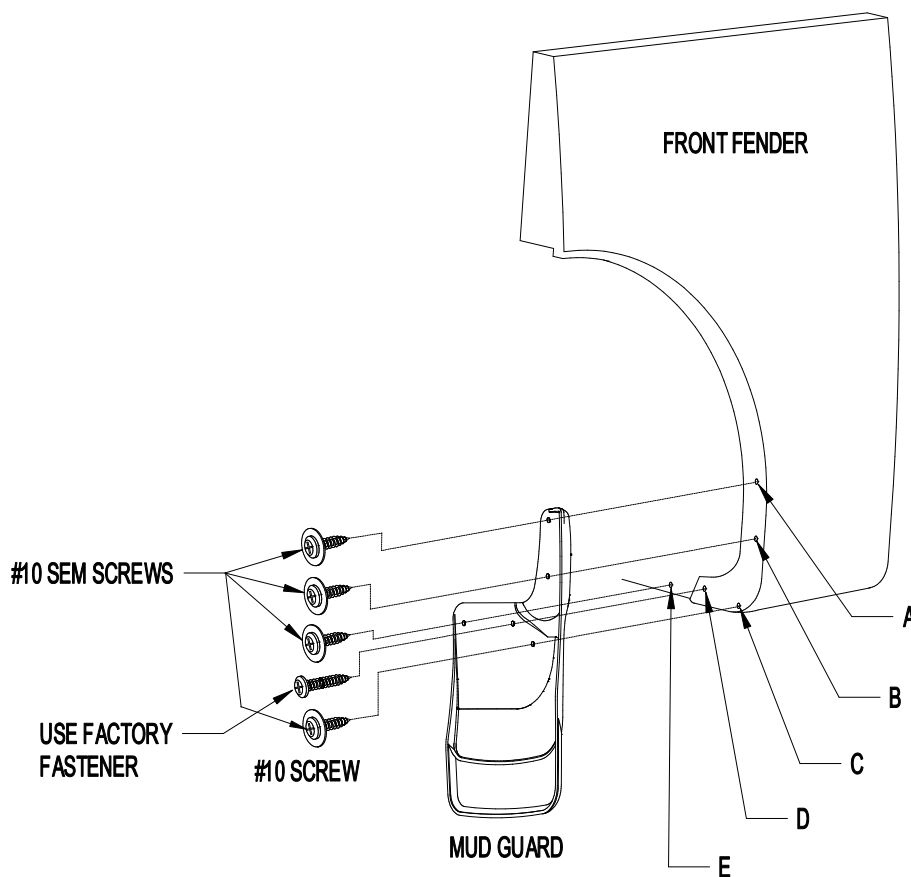

Figure 1
2. Remove existing factory fastener from location D (Figure 1).
4. Using mud guard as a template, mark, center punch, and drill 1/8" hole at locations A, B, C, and E (Figure 1).